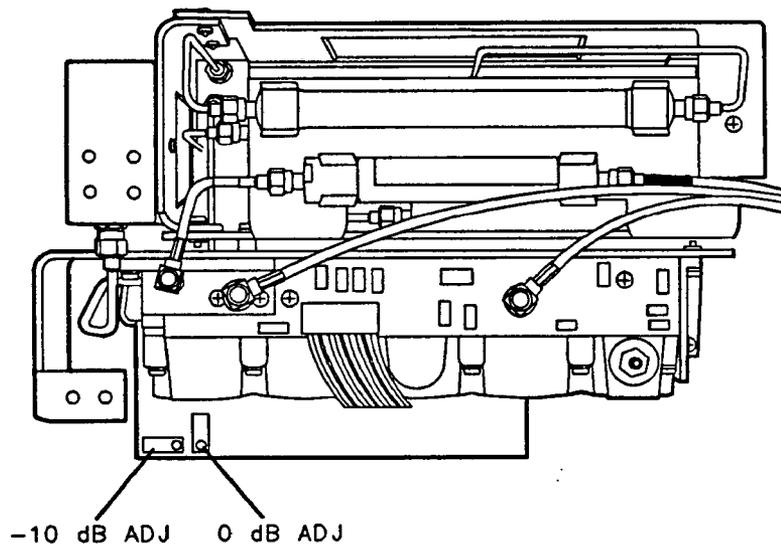

Figure 2-4. BITG Power Level Adjustment Locations
8. On the spectrum analyzer, press **SRC PWR ON OFF** (ON), 0, **dBm**, **SGL SWP**.
9. Adjust **-10 dB ADJ** (A3A15R13) for a 0 dBm \pm 0.05 dB reading on the measuring receiver. Refer to Figure 2-4 for adjustment location.
11. With the SRC PWR level set to -10 dBm , adjust -10 dB ADJ (A3A15R13) for a $-10 \text{ dBm} \pm 0.1 \text{ dB}$ reading on the measuring receiver. Refer to Figure 2-4 for adjustment location.
12. Set the SRC PWR level to 0 dBm . Adjust 0 dB ADJ (A3A15R18) for a $0 \text{ dBm} \pm 0.2 \text{ dB}$ reading on the measuring receiver. Refer to Figure 2-4 for adjustment location.